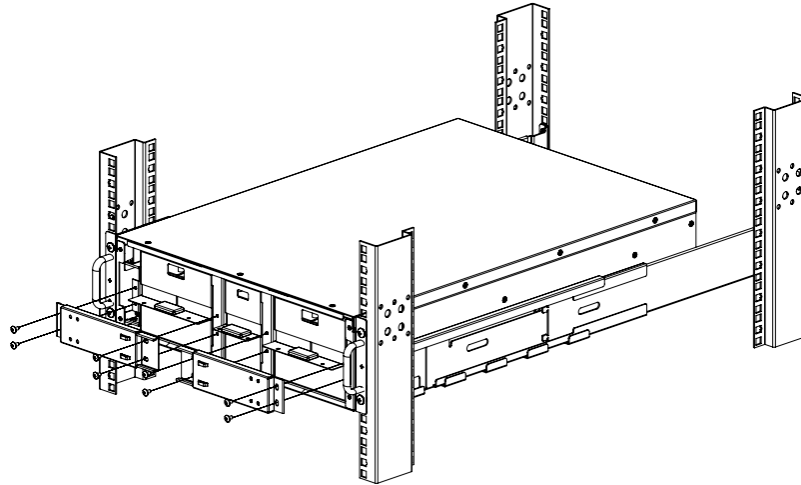

Figure 36: Reinstall Battery Baffles and Screws
28. Reinstall the battery baffles the screws (see Figure 36).